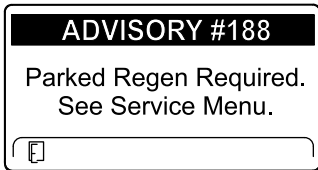

Figure 71
- Parked regeneration required ADVISORY #188 (Figure 71)